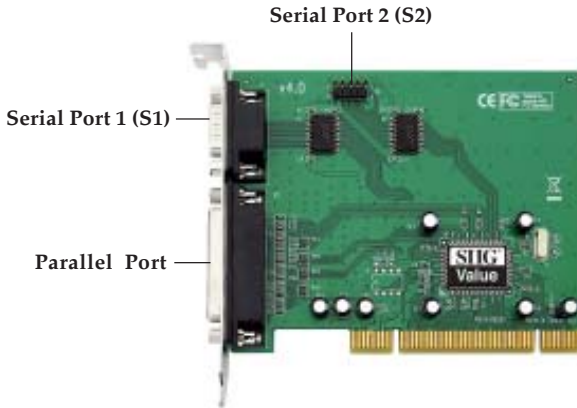

Figure 1. Layout
4. If you need the second serial port, connect the 9-pin ribbon cable connector now and remove another slot bracket cover from an available PCI slot. See **Figure 1** on page 2 for more details. Skip this step if you need only one serial port.